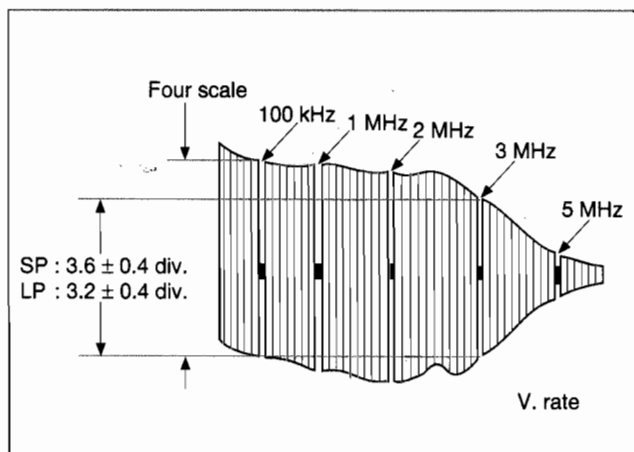

Fig. 3-3-7 S-VHS VIDEO EQ
- (1) Connect an oscilloscope to Y OUT TERMINAL and TP111 (negative slope).
- (2) Record a video sweep signal in the S-VHS SP mode, then play it back.
- (3) Set the EVR mode by pressing the "K" button of the pre-setting unit.
- (4) Set "A : 3" by pressing 3 button of the remote controller.
- (5) When assuming the 100 kHz sweep signal marker on the bigger channel is four scales on the oscilloscope, adjust the CH "+" or "-" buttons on the front panel or the Digit-key remote controller so that the 3 MHz is set at 3.6 ± 0.4 scale (-1 ± 1.0 dB) while observing Y OUT of the S output. (See Fig. 3-3-7.)
- (6) Set the normal VCR mode by pressing the "K" button of the pre-setting unit again so adjustment data is memorized.
- (7) Carry out the step (3) and (4) in the S-VHS LP mode.
- (8) When assuming the 100 kHz sweep signal marker on the bigger channel is four scales on the oscilloscope, adjust the CH "+" or "-" buttons on the front panel or the Digit-key remote controller so that the 3 MHz is set at 3.2 ± 0.4 scale (-2 ± 1.0 dB) while observing Y OUT of the S output. (See Fig. 3-3-7.)